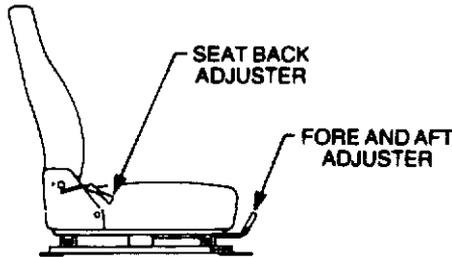

Figure 1-14 Seat adjustment
89. Cabin seating (Fig. 1-14)
The central cabin seat back can be tilted forward and utilized as a platform by the observer using the roof hatch, and fore and aft movement can be adjusted as illustrated in Fig. 1-14.